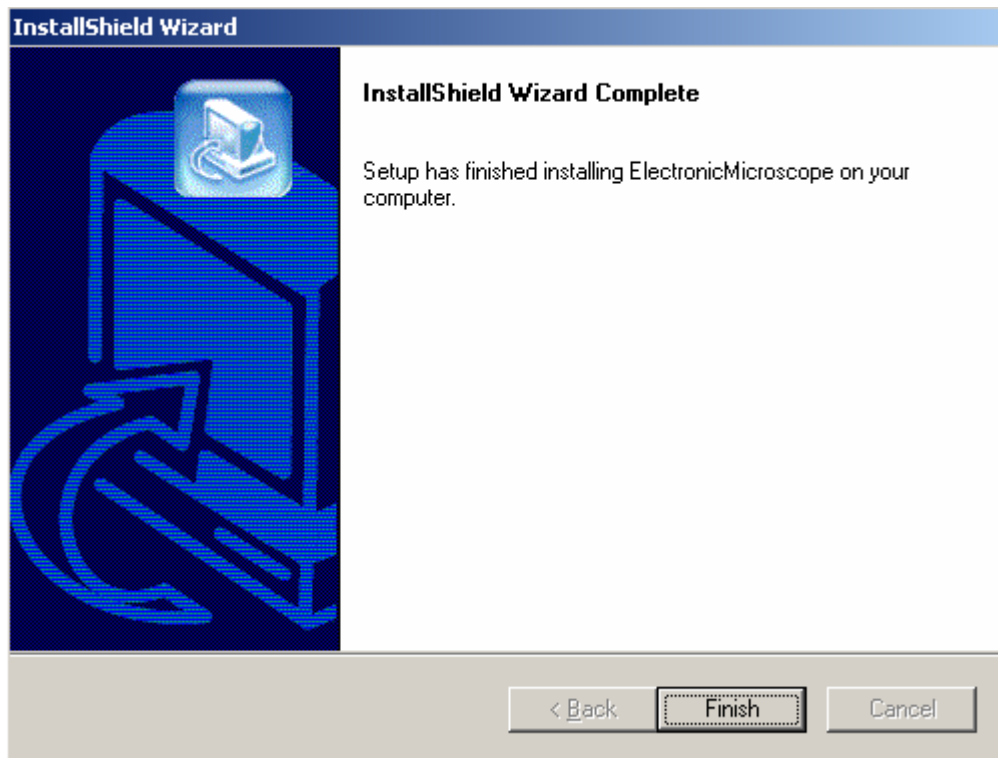

Figure 4.
4. When the installation completes, following windows, figure 4, displays. Click the button “*Finish*” to close this window.